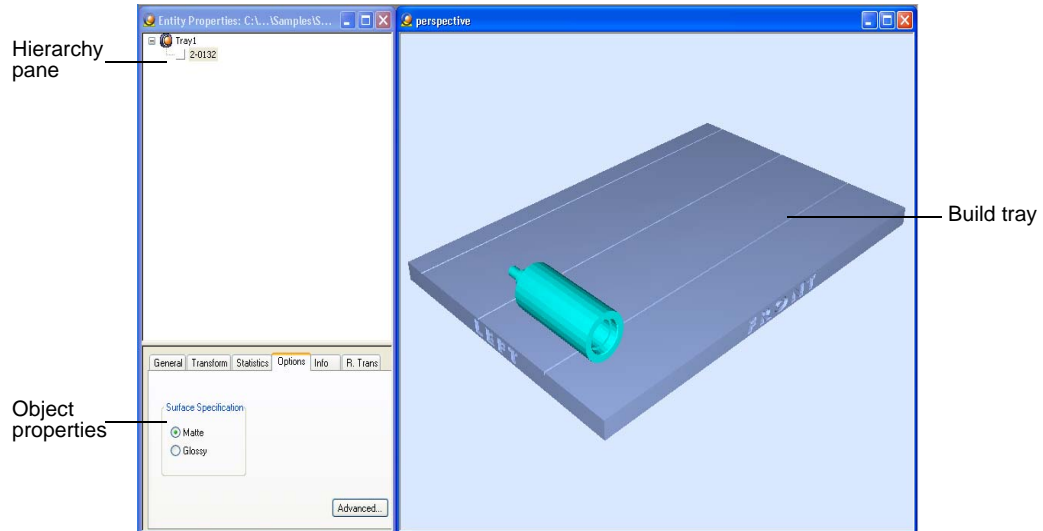

Figure 5-4: Default screen layout
The default screen layout displays the *perspective* view of the build tray and the tray hierarchy pane, which lists the elements placed on the tray (see figure 5-4 on page 5). You can view models from different angles by changing the screen layout.
- ❑ **2 Views** is the default screen layout, already displayed (see figure 5-4 on page 5).